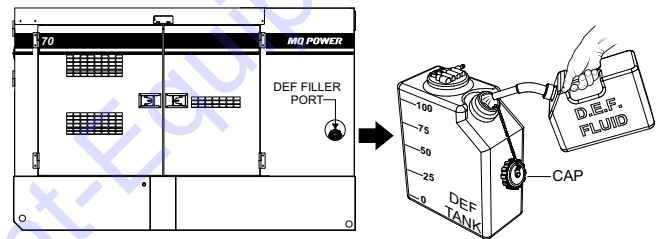

Figure 29. DEF Tank Filling
2. Remove the filler cap from the DEF tank (Figure 29).